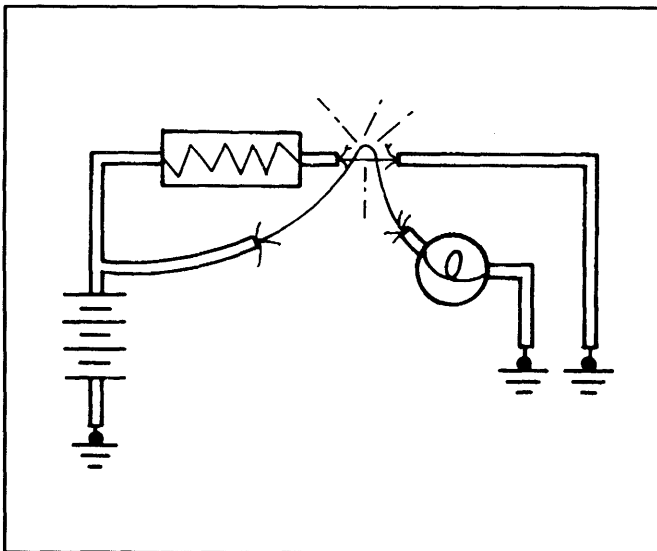

Figure 21 — Short Circuit
**SHORT CIRCUIT (Figure 21)** – A short circuit happens when the current bypasses part of the normal circuit. This bypassing is usually caused by wires touching, salt water in or on a component such as a switch or a connector, or solder melting and bridging conductors in a component.